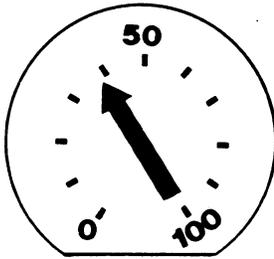

FIGURE 16. GAIN AND DROOP CONTROL
- b. Turn the screw to approximately 40 for 3 percent droop. See Figure 16.
- c. Turn the screw to approximately 80 for 5 percent droop. See Figure 16.